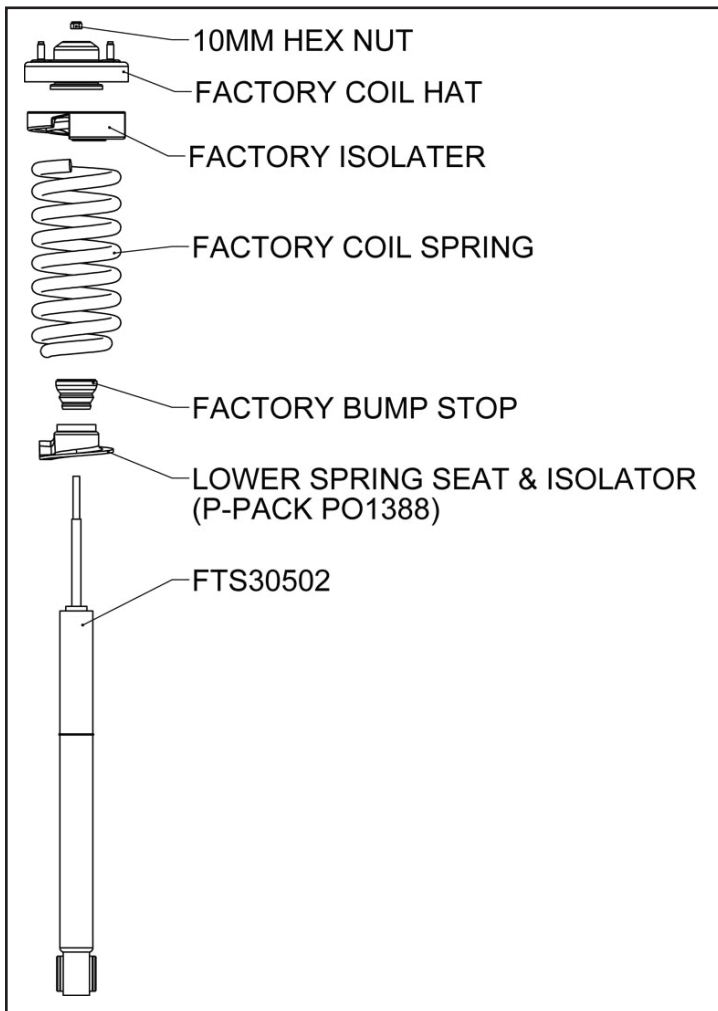

FIGURE 41 - STEP 42
42. Locate FTS30502 Fabtech shock and spring seat. Assemble the shock using the retained factory components. Requires Spring Compressor for assembly. **SEE FIGURE 41**